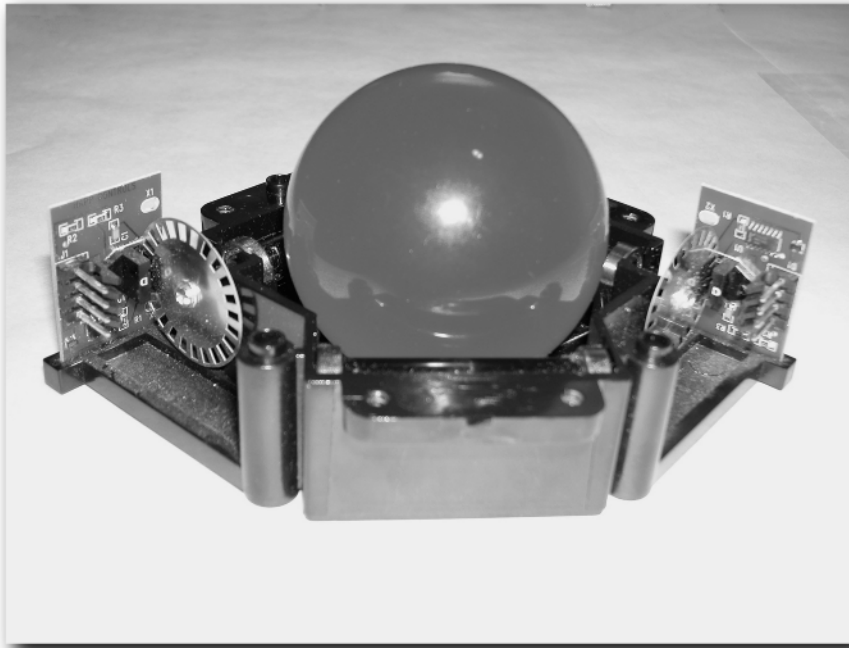

FIGURE 4-9: Happ Controls trackball with the cover off.
Although they differ in appearance, trackballs and spinners are distant cousins to one another and operate under the same principals. Where a spinner has a single optical encoder and recognizes movement in one dimension along the X or Y axis, a trackball has two encoders and moves in two dimensions along both axes. With a spinner you typically move left and right across the screen (sometimes up and down). With a trackball you move freely around the screen. Instead of using a knob and shaft to turn along one axis, trackballs typically have a solid ball resting on two rollers attached to encoder wheels oriented 90 degrees to one another. There may be a third roller providing support that is not connected to an encoder wheel. In Figure 4-9, you can see a partially disassembled 3-inch Happ Controls trackball. The ball sits in the center, surrounded on either side by the horizontal (X) and vertical (Y) axis encoder wheels. Moving straight along the X or Y axis turns one roller and encoder wheel, producing movement in one direction. Moving at any angle other than straight horizontal or vertical turns both rollers, producing movement in the appropriate direction. This works exactly like a mouse. In fact, if you turn a mouse on its back, you essentially have a trackball!